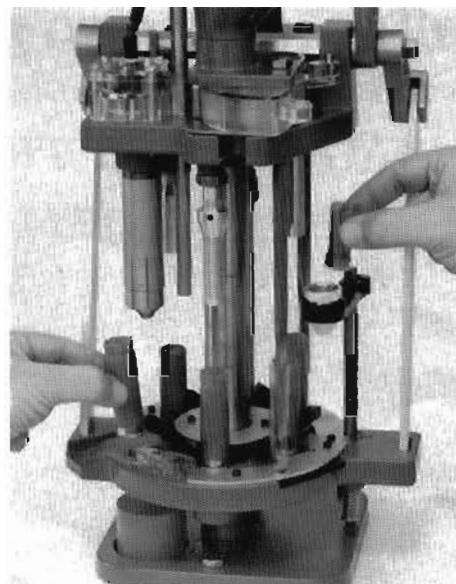

Fig. 73
**Figure 73** - The APEX Automatic has six loading stations. Each station, except the shot drop tube, has been factory adjusted and should not need further adjustments on your part. You should, however, inspect the loader to ensure everything appears as pictured.